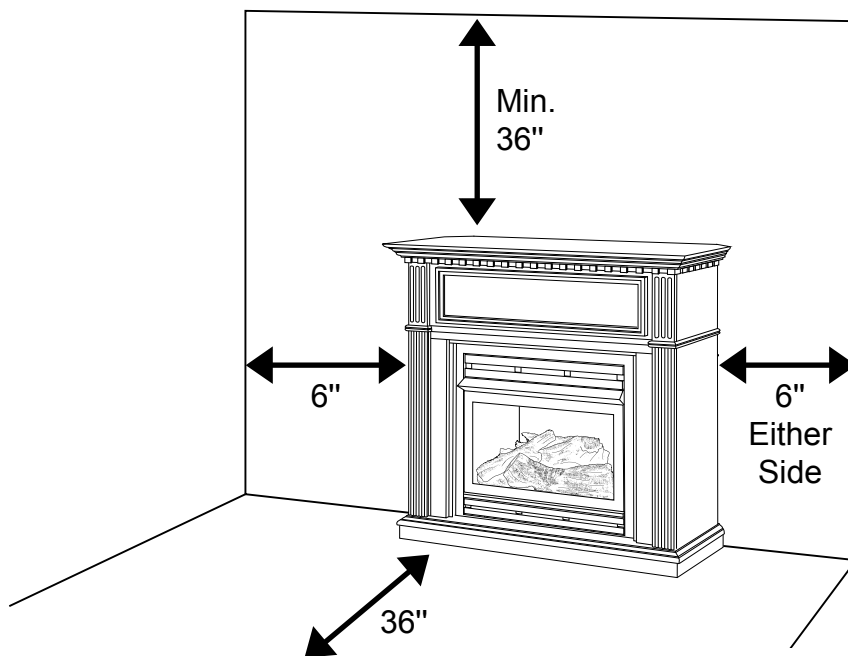

Fig. 6 - Minimum Clearance to Combustible Material
IMPORTANT: Maintain the minimum clearances shown in Figure 6 on page 12. If you can, provide greater clearances from floor, ceiling and joining wall.
A. Clearances from the side of the fireplace cabinet to any combustible material and wall should follow diagram in Figure 6.
The installer must supply an external regulator for liquid propane. The external regulator is provided by the gas supplier for natural gas. The external regulator will reduce incoming gas pressure. You must reduce incoming gas pressure to between 11 and 14 in. of water column for propane and between 6 and 14 in. of water column for natural gas. If you do not reduce incoming gas pressure, heater regulator damage could occur. Install external regulator with the vent pointing down as shown in Fig. 6. Pointing the vent down protects it from freezing rain or sleet.